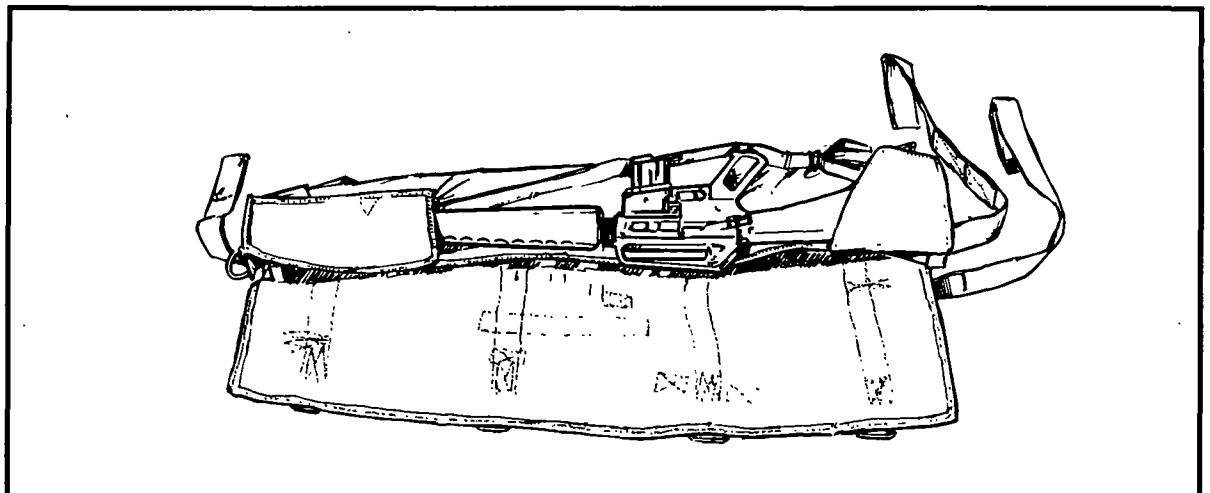

Figure 6-52. Positioning of M16 rifle.
(1) Insert a 30-round magazine into the rifle (optional).
(2) Secure a 30-round magazine to the sling of the rifle, using adhesive tape (optional).
(3) Insert the rifle muzzle into the muzzle pocket and place the butt in the rifle butt pocket as shown in Figure 6-52. Ensure that the magazine/pistol grip points toward the side securing straps, and the rifle muzzle is inserted into the muzzle pocket as far as possible.